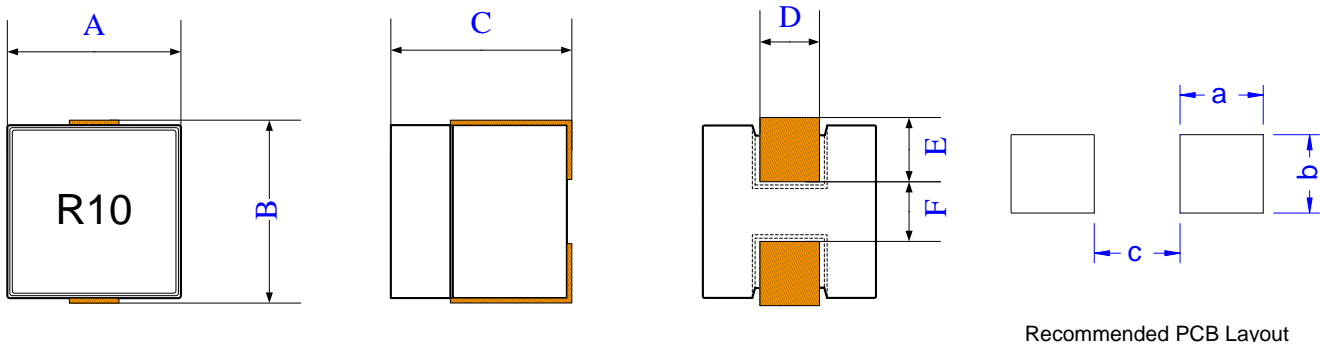

Fig.3-1
Dimensions and recommended PCB pattern for reflow soldering, refer to Fig.3-1 and Table 3-1.
- ※ Nominal DCR is measured from point a to point b. (refer to Fig. 3-1)